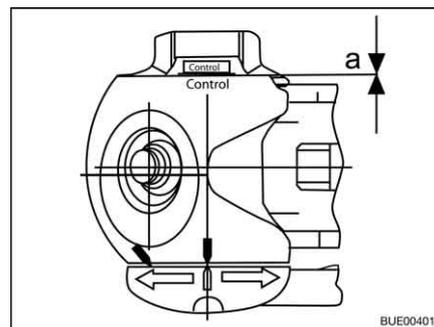

Fig. 207 Friction control
- Distance $a = 0$ (Fig. 207): Check and, if necessary, replace the friction pads.